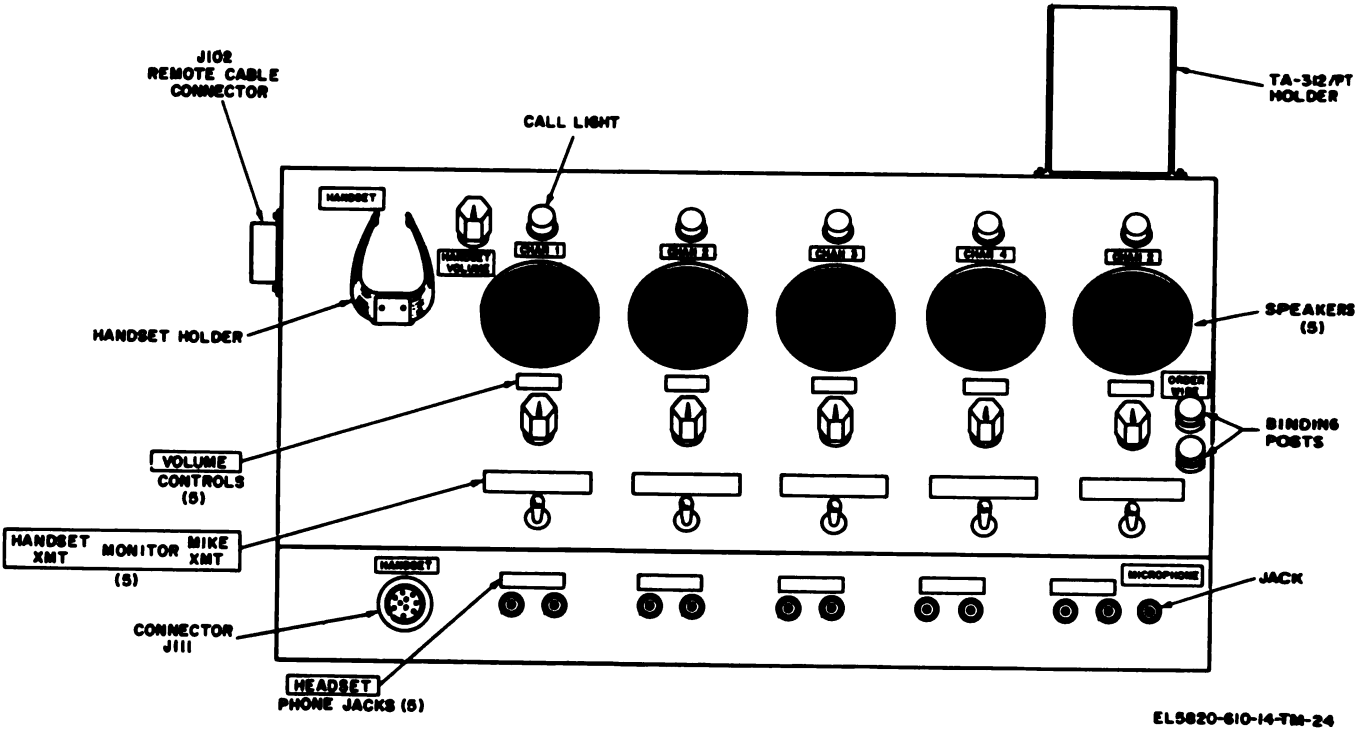

Figure 3-7. Remote control console controls and indicators.
a. Remote Control Console (fig. 3-7).